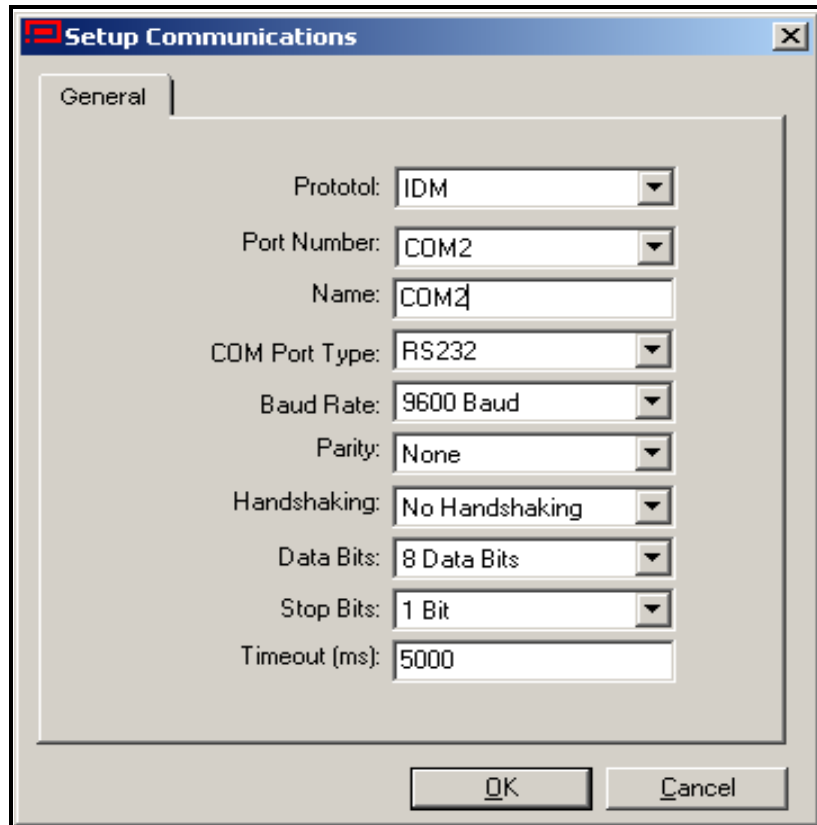

Figure 3: *Setup Communications* Screen
- Click on the “*Communications Port*” option to select it. The *Setup Communications* screen appears similar to Figure 3 below.